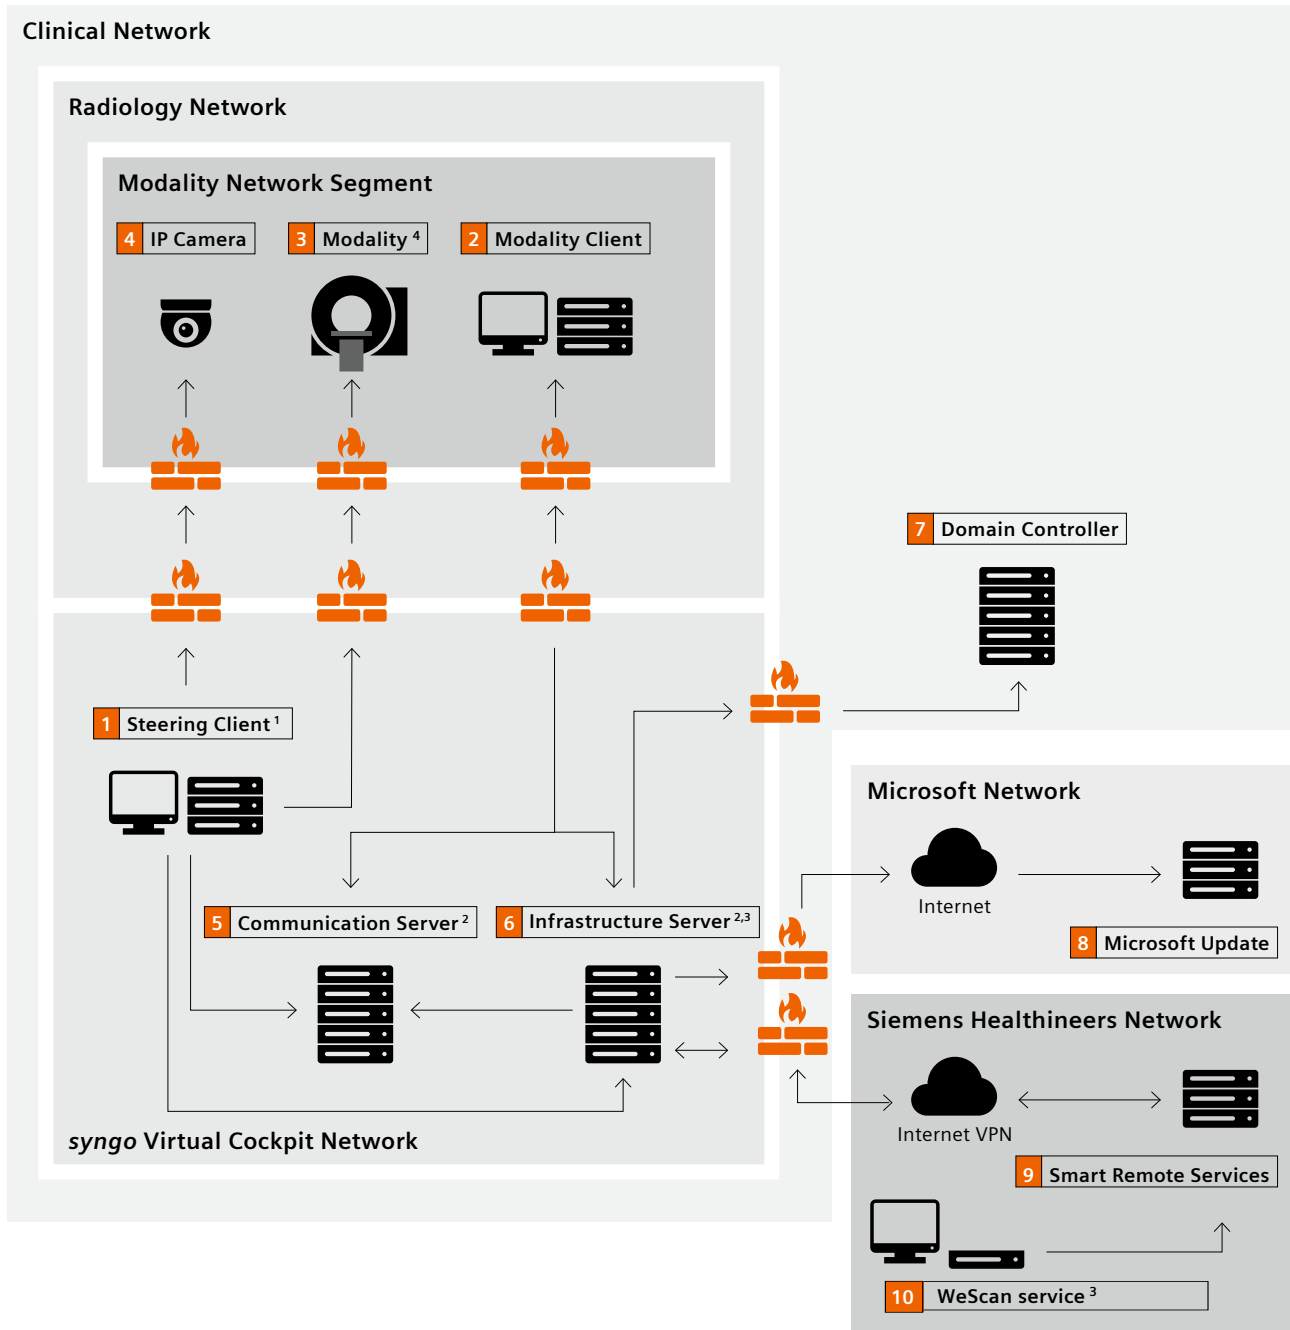

Figure 1:
- IP Cameras are not part of the *syngo* Virtual Cockpit product. Selection, deployment and operation of the IP cameras is in the responsibility of the customer. This includes configuration and installing security patches.³ *syngo* Virtual Cockpit Steering Clients connect directly to the cameras as can be seen in the network diagram in Figure 1.
² See Figure 1 for recommended deployment, network segmentation and firewall setup.